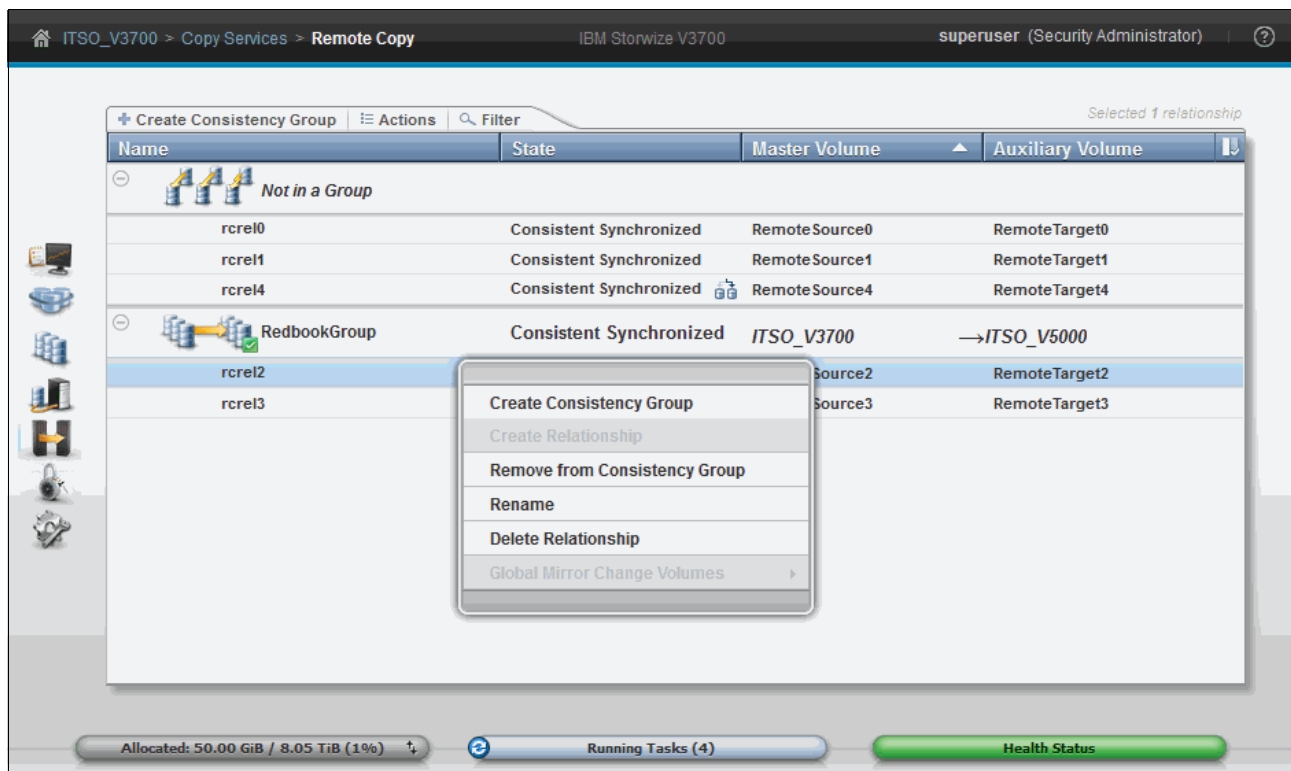

Figure 10-132 Consistency group member options
18. Notice, however, that unlike those options for individual Remote Copy relationship, those under the control of a consistency group cannot be stopped or started individually. This is shown in Figure 10-132.